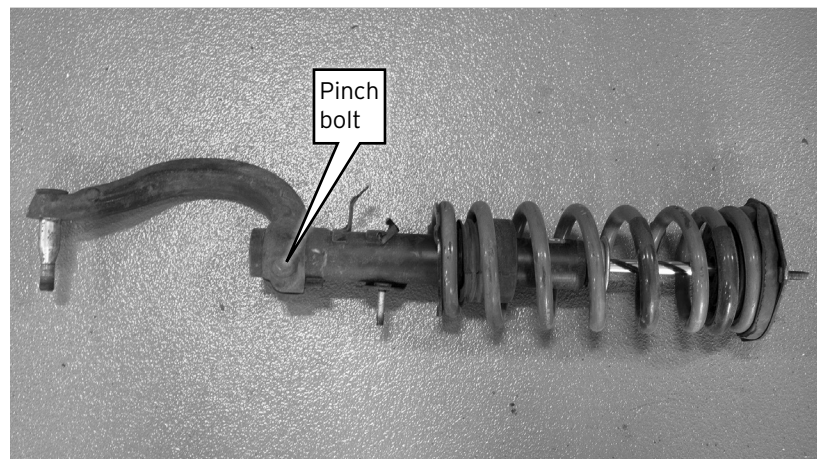

Fig. 11
5. Note the bracket orientation to the lower mount and remove the pinch bolt. Disassemble the shock from the lower mount (Fig. 11).